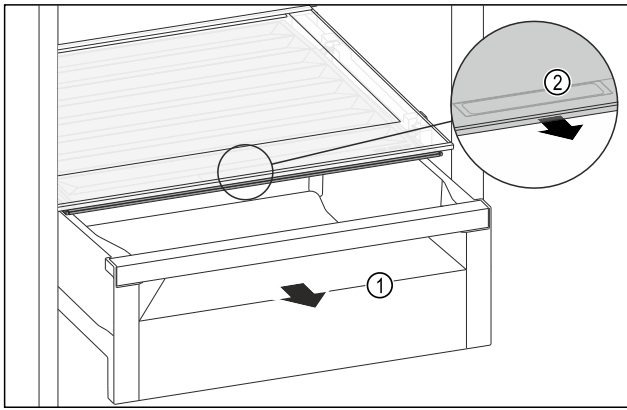

Fig. 159
- ▶ Pull out the drawer Fig. 159 (1).
- ▶ Grasp the recessed grip Fig. 159 (2) on the compartment lid and pull the compartment lid forwards at the same time.